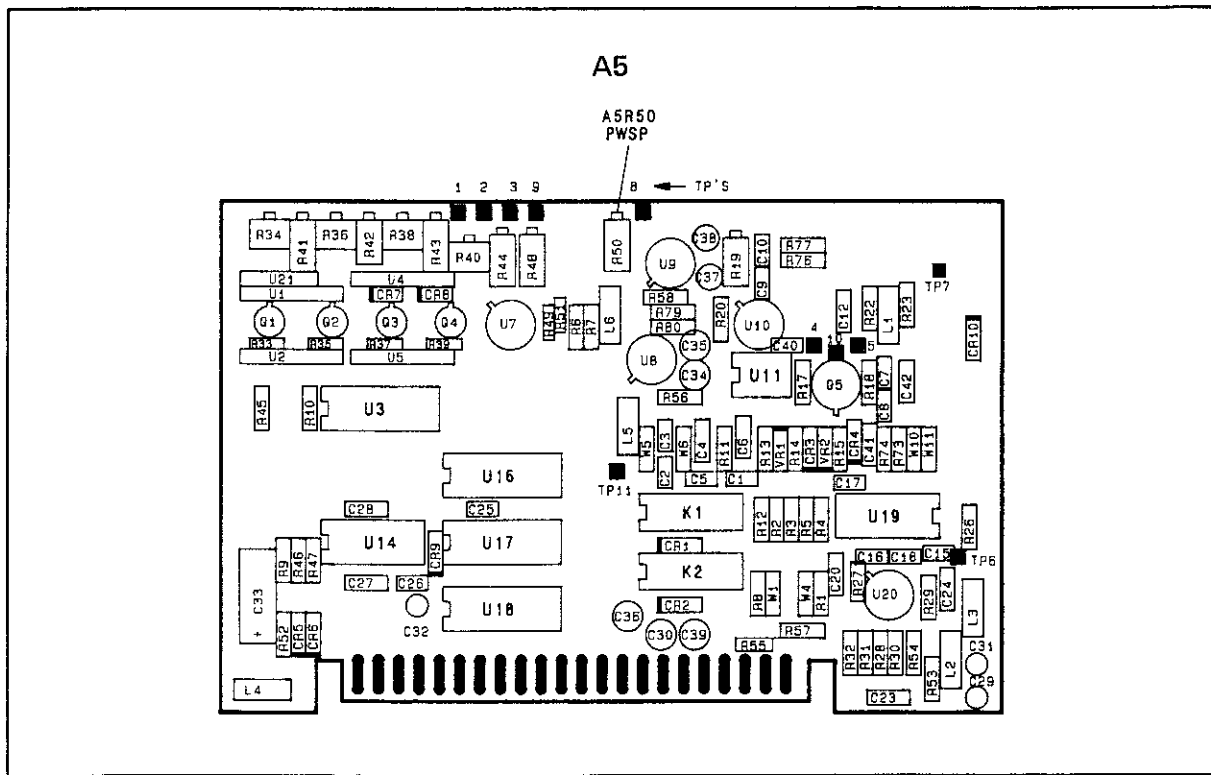

Figure 5-23. Power Sweep Adjustment Location
- While observing the power meter display of the RF output, adjust A5R50 PWSP (Figure 5-23) for 7 dB/sweep for the HP 83572A or 11 dB/sweep for the HP 83572B (1.5 dB less if the instrument is an Option 001/006).